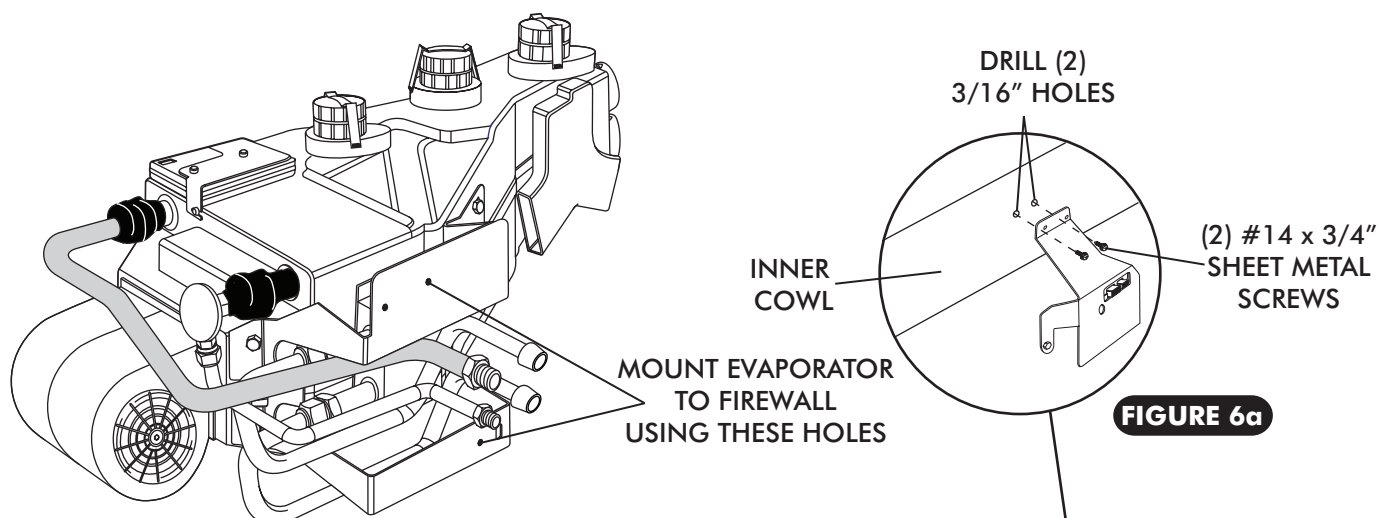

FIGURE 6a
- ❑ SECURE THE FRONT EVAPORATOR MOUNTING BRACKET TO COWL USING (2) #14 x 3/4" HEX SHEET METAL SCREWS. SEE FIGURE 6a, BELOW.